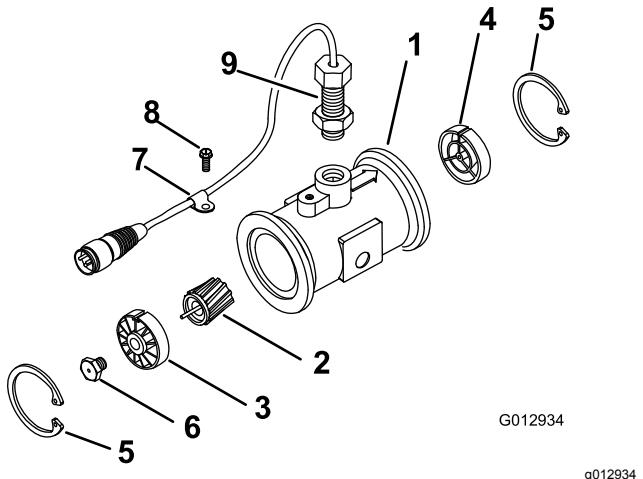

Figure 86
3. Remove the retainer ring on the upstream side (Figure 86).